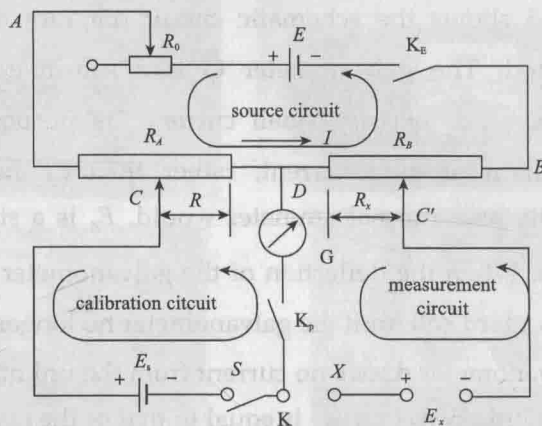

Fig. 3.15-4 A schematic circuit diagram of the potentiometer
- (1) Can we use a voltmeter to measure the emf of a cell? Why?
- (2) What is the null balance measuring method in electricity?
- (3) In Fig. 3.15-4, consider $E_s = 2.000\text{V}$. What's the resistance value of R in order to obtain a working current of 5.000mA in the source circuit? In the measuring circuit, R_x is 201.5Ω when the galvanometer reads zero. What's the measured emf?
The box potentiometer is constructed on the principle of null balance. A schematic diagram of the potentiometer is shown in Fig. 3.15-4, where E is a stable current source with a constant voltage greater than any voltage to be measured, E_s is a standard cell with emf of 1.0185 V, E_x is an unknown emf produced by thermocouple in this experiment, R_0 is a variable resistor, R_A and R_B are two resistors, C and C' are two sliding contacts which varies the resistances in the calibration and measurement circuits, R and R_x are the
R_1 R_2 R_3	They are the resistance R in Fig. 3.15-4. Tune them to calibrate the current in source circuit to 10.000 mA when the galvanometer reads zero
K	It is the switch K in Fig. 3.15-4. When calibrating, it should be turned to “standard”; when measuring, turn it to “unknown 1” or “unknown 2”; Turn it to “off” when it is not in use
Coarse Fine Short	They are the switch K_p in Fig. 3.15-4. You will use it when calibrating and measuring. At the beginning of calibration or measuring, press down the “coarse” button and it will be observed that the galvanometer deflects far from zero. After the galvanometer deflects close to zero you can lock the “coarse” button and push down the “fine” button. The “short” button is used to calibrate the galvanometer
I II III	The resistance R_B (or R_x) in Fig. 3.15-4. Tune them to make the measurement circuit null balance when the galvanometer reads zero. The values are transferred to millivolt due to the fixed current of 10.000mA through R_B in the source circuit
(1) The output of the stable power supply is in the range of 5.7~6.4 V. We call it the working voltage of the potentiometer. Can we measure an emf by a potentiometer which is greater than the working voltage? Why?
(2) In Fig. 3.15-4, the purpose of the calibration circuit is to get a current of 10.000 mA in the source circuit. Can the calibration circuit be replaced by an ammeter? Why?